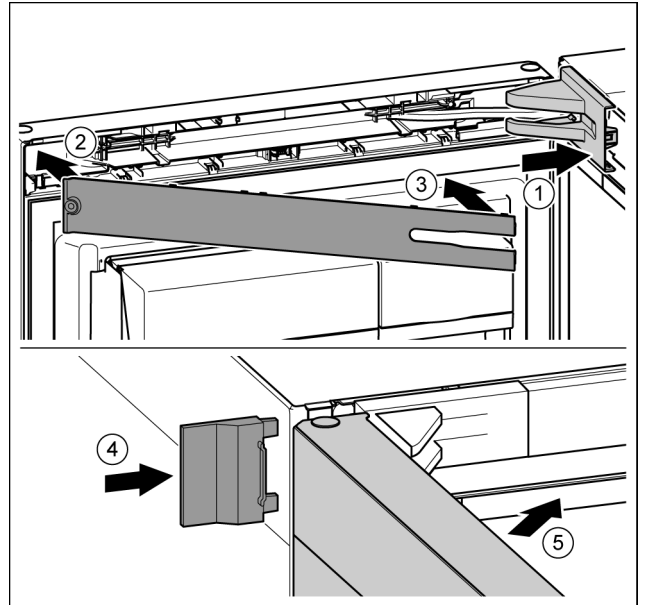

Fig. 50
- ▶ Position the bearing bracket and engage. If necessary push apart carefully. Fig. 50 (1)
- ▶ Position the panel. Fig. 50 (2)
- ▶ Swing in the panel and click into place. Fig. 50 (3)
- ▶ Slide on the external cover. Fig. 50 (4)
- ▶ Close the upper door. Fig. 50 (5)